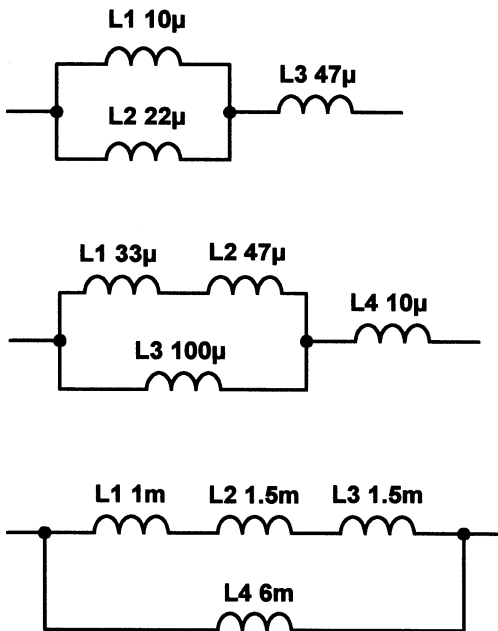

Figure A2.6
15. Determine the effective inductance of each circuit shown in Fig. A2.6. [Page 40]